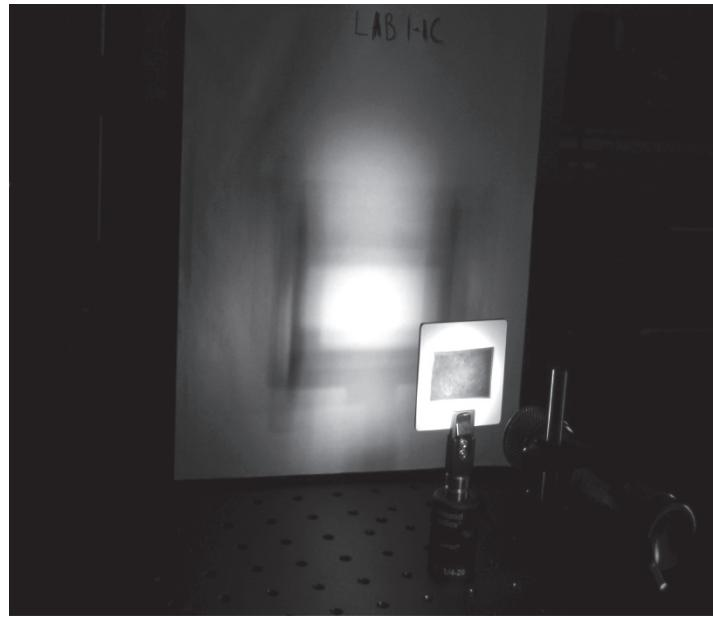

Figure 11 – Spectrum Analysis Set-up
- Focus the light perpendicularly onto the grating surface. Refer to Figure 11.